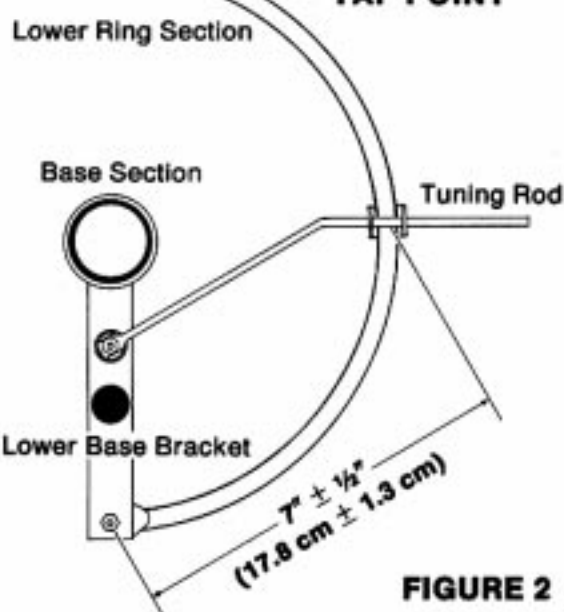

FIGURE 2
Assemble the tuning rod clamp (93) with the appropriate hardware. Hold the assembled tuning rod clamp against the bottom side of the lower ring section. Slide the tuning rod (70) through the holes in the tuning rod clamp (93) on the top side of the ring section. See figure 2 for the proper location of the tuning rod. Attach the flattened end of the tuning rod (70) to the bolt extending from the inner coaxial fitting (the one without the black insulator).